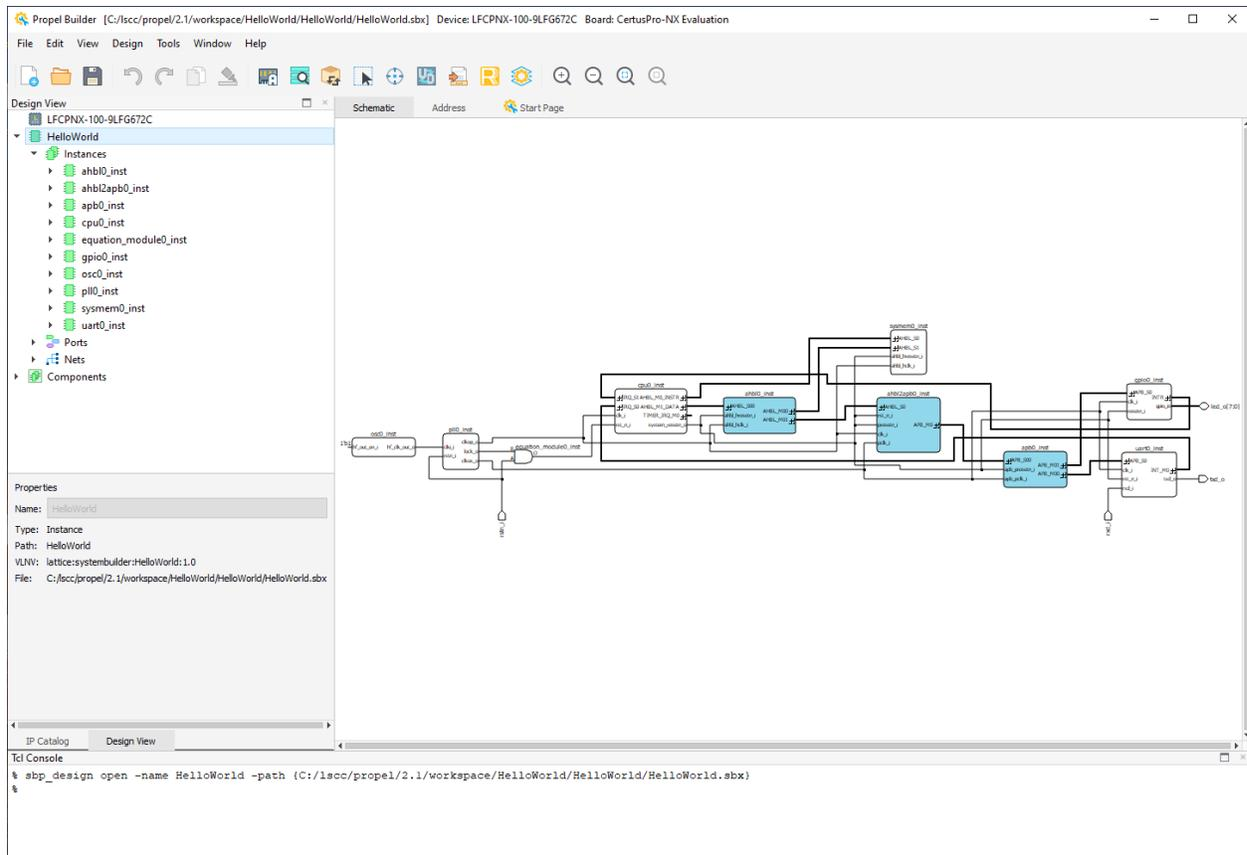

Figure 2.11. Propel Builder GUI shows Template Project
10. Click **Finish**. Propel Builder GUI opens (Figure 2.11).